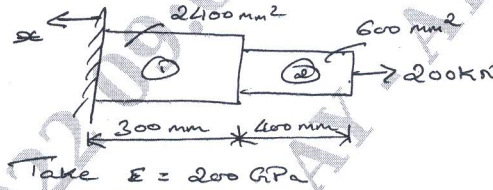

Fig.Q3(b)
- Fig.Q3(b) shows 1D stepped bar element subjected to an axial load. Determine :